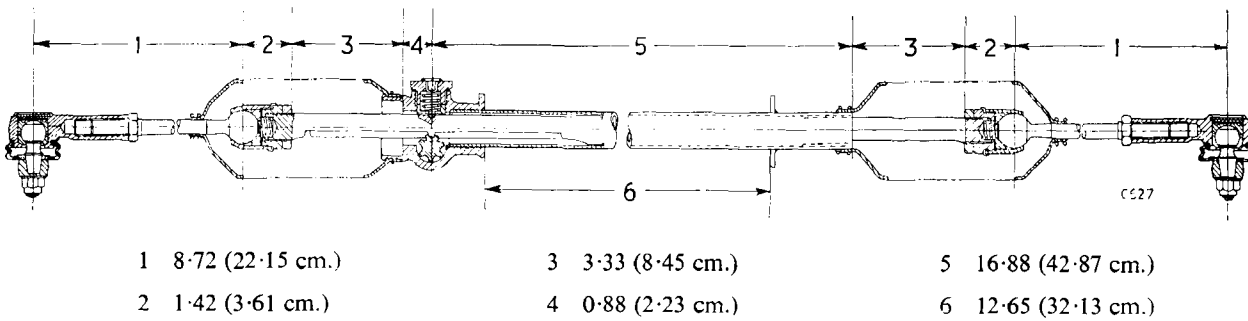

Fig. 4. Steering unit dimensions
Limitation of the steering lock is controlled by the locknut (33) contacting the rack tube. Thus dimension (3) Fig. 4 is particularly important. Providing that this dimension is accurate and the steering unit is centrally mounted on the chassis, correct steering locks should result.
Key to Fig. 4
1. Referring to Figs. 4 and 12, ensure that the steering unit is assembled to the dimensions given.